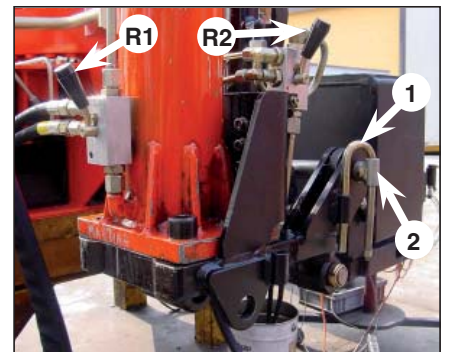
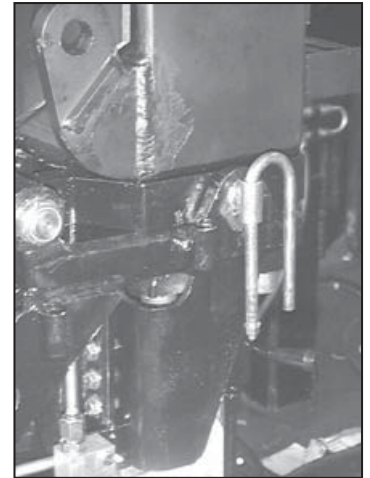

fig. 7
fig. 9
- **rotation of the outrigger ram n°1 from the rest position (fig. 7) to the working condition (fig. 9)**